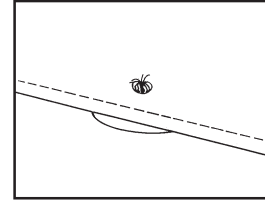

Fig. 14-16
8. Bring the needle back to the wrong side of the fabric and fasten the thread securely to the fabric. Clip the thread. (Figs. 14-16 and 14-17)